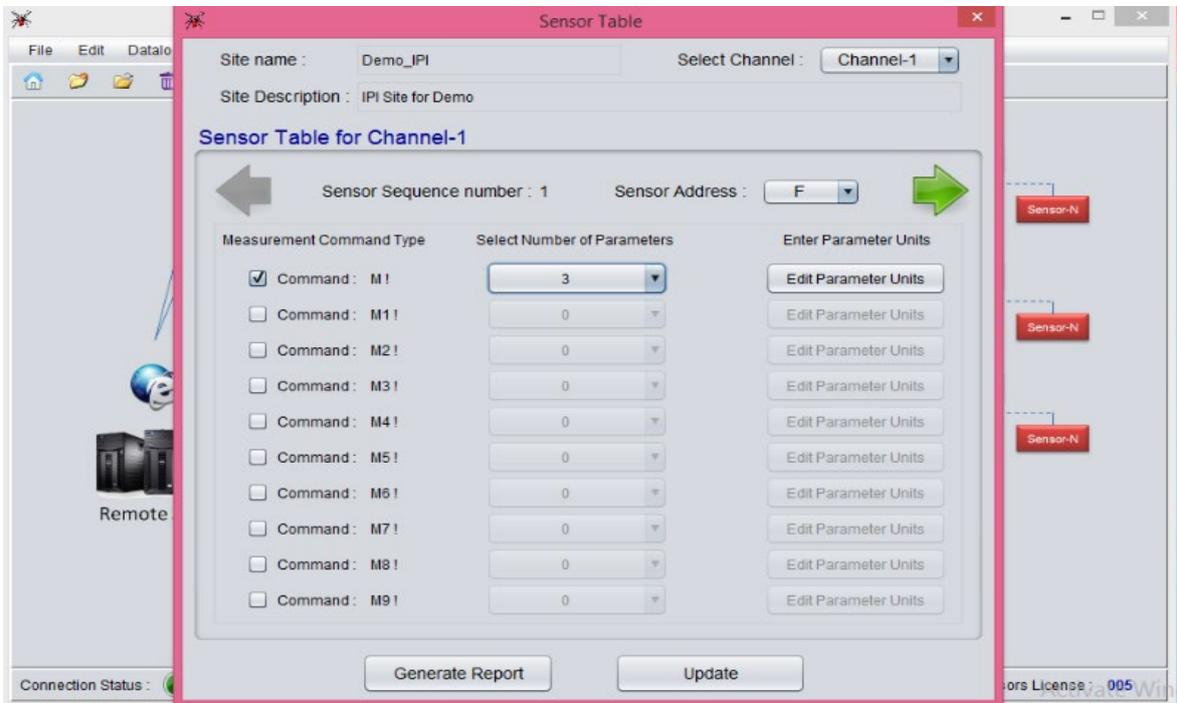

Figure 7-17 Sensor table window of EDSL-30UNI Configuration Manger Software
- In the "Sensor Table" window shown in figure 7-17 below, select appropriate channel from "Select Channel" & address from "Sensor Address" to which the sensor is connected. Then select the "Measurement Command Type" which is "M!" by default and "Select Number of Parameters" to be measured. Then click on "Edit Parameter Units"